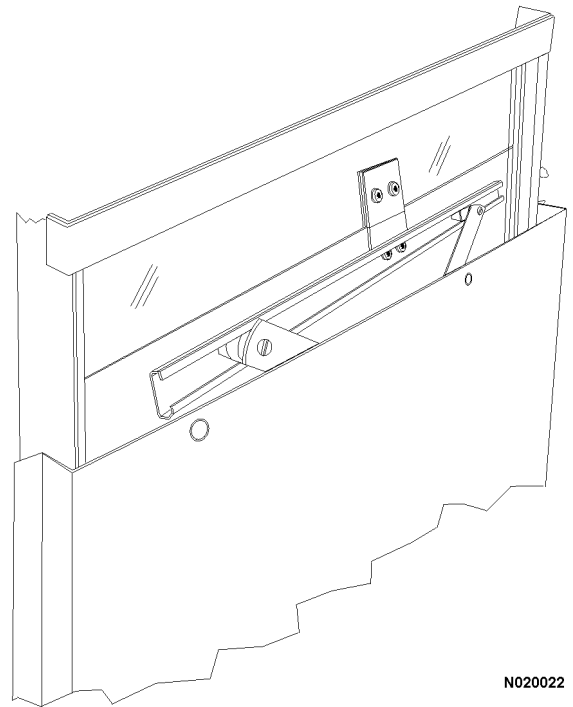

FIGURE 2-7.
2. Remove 2 M8X12 capscrews (3), which hold the door strap bracket to the door.
3. Disconnect wiring harness (4) to the window regulator.
5. Before removing all door panel mounting screws, support the panel to prevent the assembly from dropping. Remove 15 mounting screws (5).
6. Carefully lower the door panel a few inches (Figure 2-7). Hold glass at top to prevent it from dropping. Slide the door panel toward the cab to disengage the window regulator roller from the track on the bottom of the glass. Then slide the panel away from the cab to disengage the other top roller and the lower roller from their tracks. Place the panel out of the way after removal.